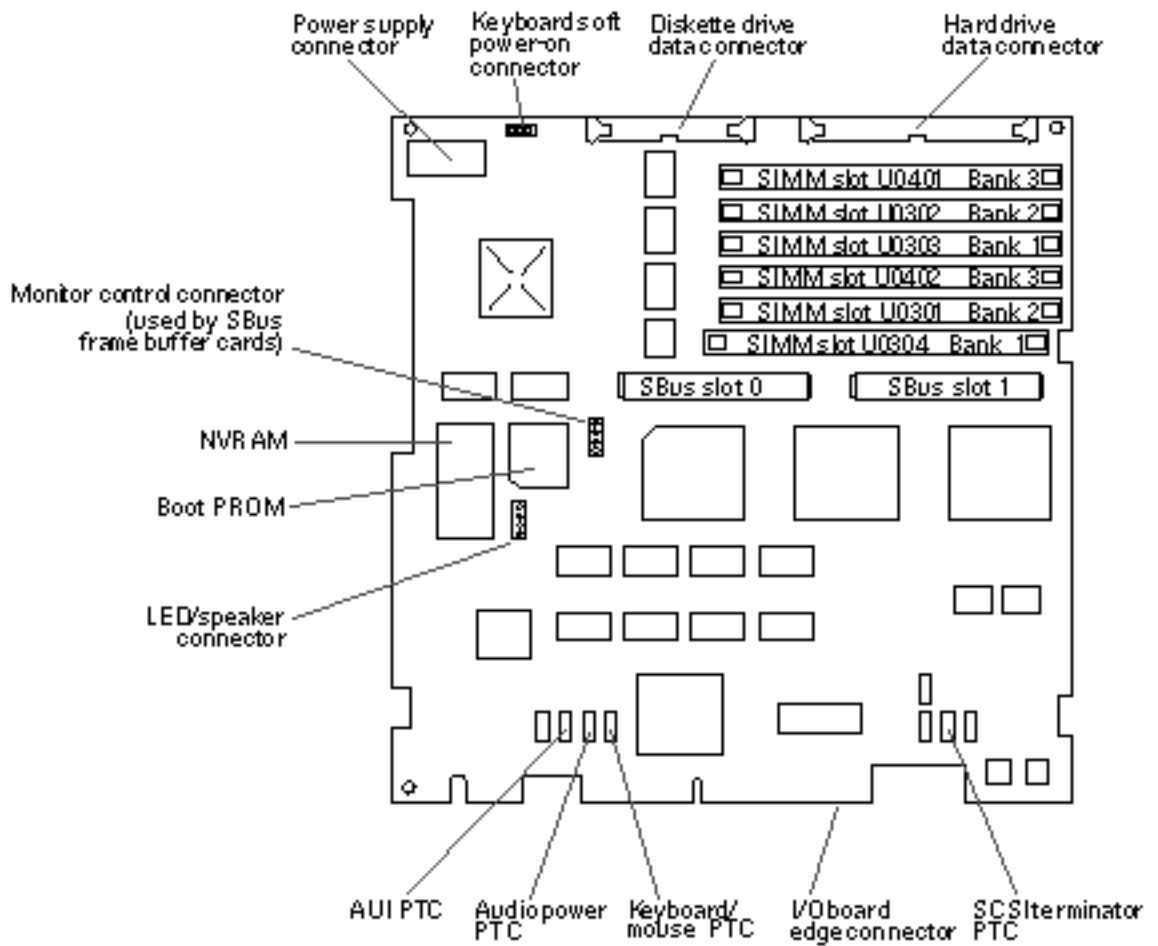
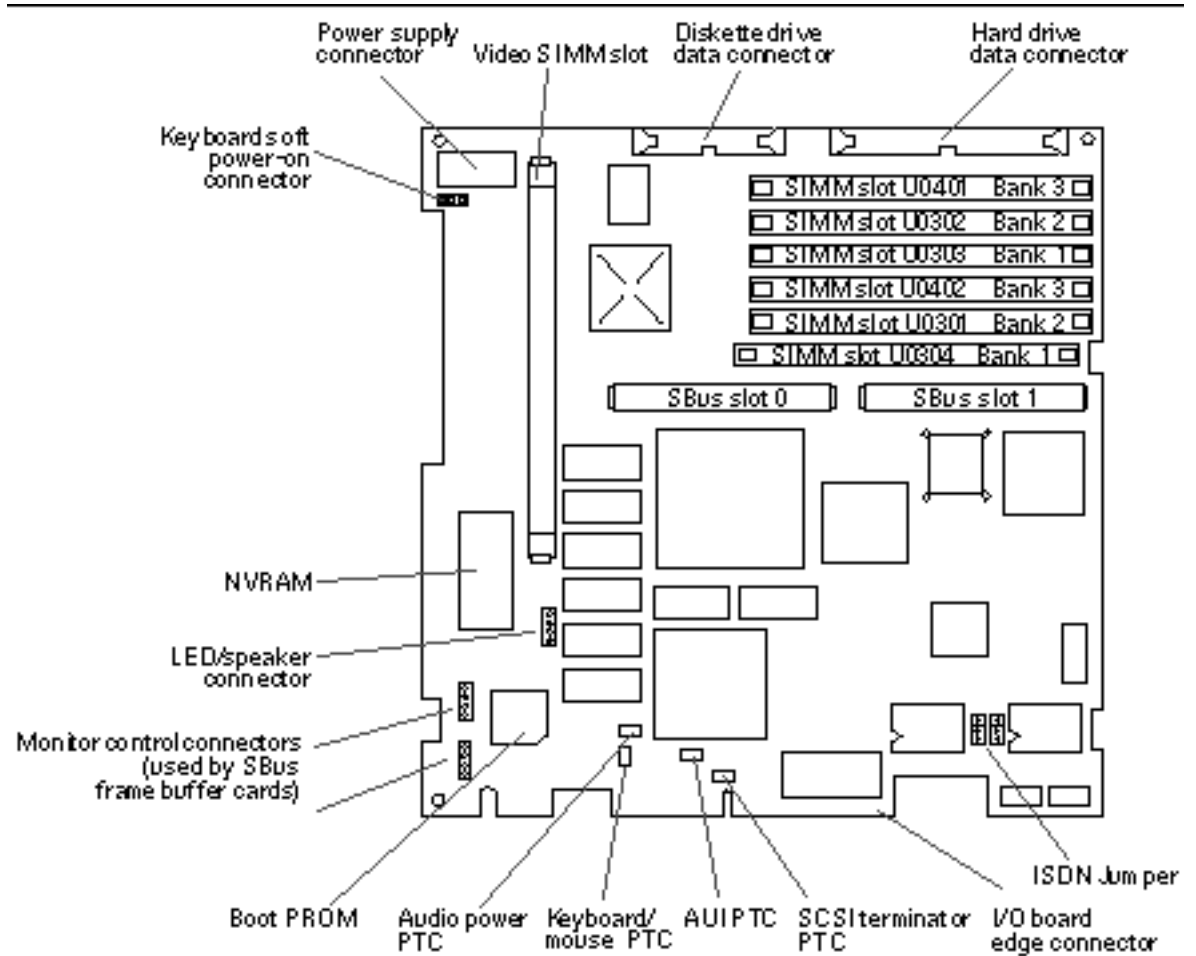

Figure 11-12 Main Logic Board Layout—SPARCclassic/SPARCclassic X
Figure 11-13 Main Logic Board Layout—SPARCstation LX (Part 270-2233)
There are no voltage test points on the main logic board. If you need to measure voltages, the safest place is at the power supply connection on the main logic board (see Figure 11-12 and Figure 11-13). See “Before Replacing the Main Logic Board” on page 128 for the connector wiring and voltages.
- a. Make sure that all SIMMs are correctly seated, the power supply harness is connected to the main logic board, and all replaceable chips on the board are correctly seated in their sockets. (See Figure 11-12 and Figure 11-13 for SIMM locations.)
For connector locations, refer to Figure 11-12 and Figure 11-13 in “Main Logic Board” on page 124.